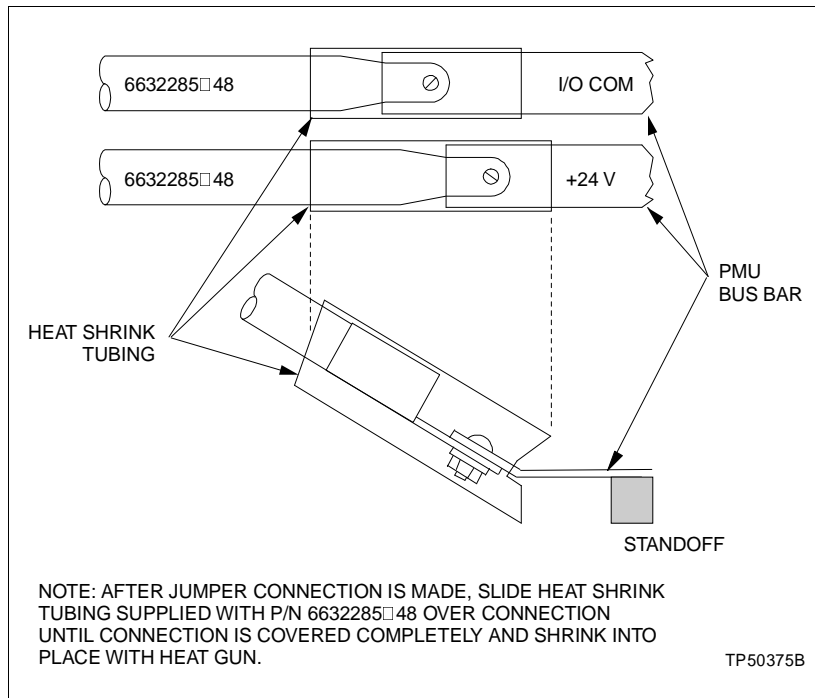

Figure 3-9. Heat Shrink Tubing for 24 VDC Connection
- Attach one end of the 10 AWG wire assembly to the system power bus bar I/O COM. Attach the other end to the PMU I/O COM pick-up faston (see Figure 3-9).